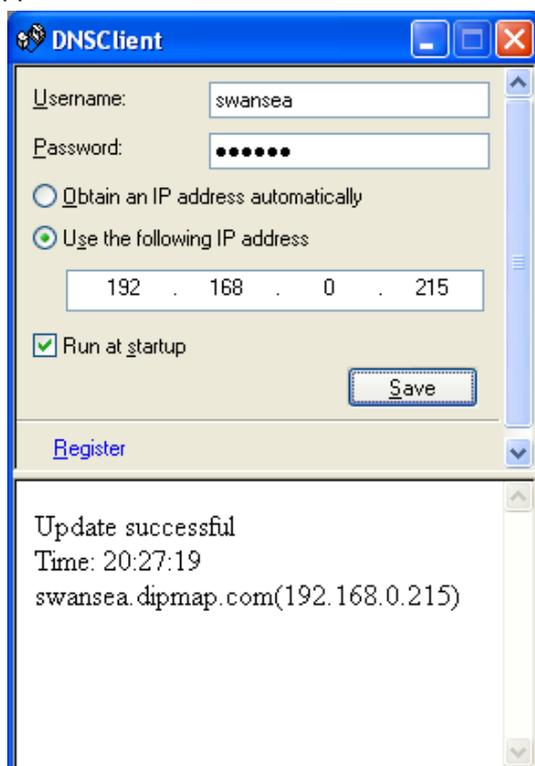

Figure 11-3
1. Go to Windows **Start**, point to **Programs**, select **DDNS**, and then run **Dynamic DNS Service**. The DNS Client dialog box (Figure 11-3) appears. Click **Register**. The following Dynamic DNS register page appears.